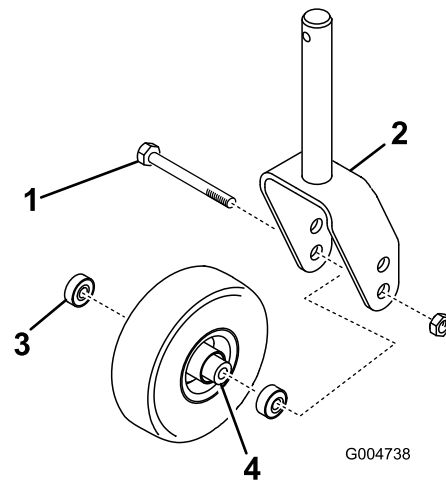
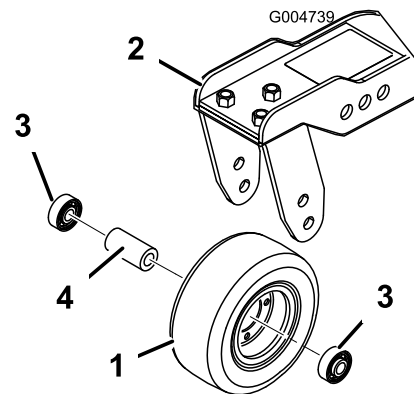

Figure 78
Figure 79
or the castor pivot arm (Figure 79). Grasp the castor wheel and slide the bolt out of the fork or pivot arm.
1. Remove the locknut from the bolt holding the castor wheel assembly between the castor fork (Figure 78)
2. Remove the bearing from the wheel hub and allow the bearing spacer to fall out (Figure 78 and Figure 79). Remove the bearing from the opposite side of the wheel hub.